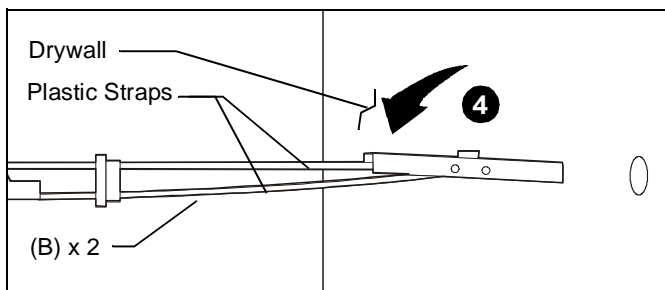

Figure 11
4. Hold metal channel on anchor (B) flat alongside plastic straps and slide channel through hole. (See Figure 11)